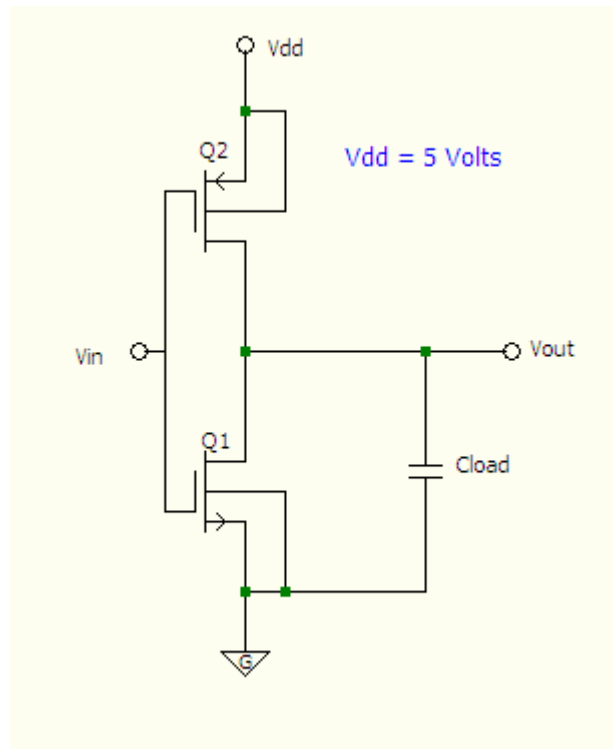
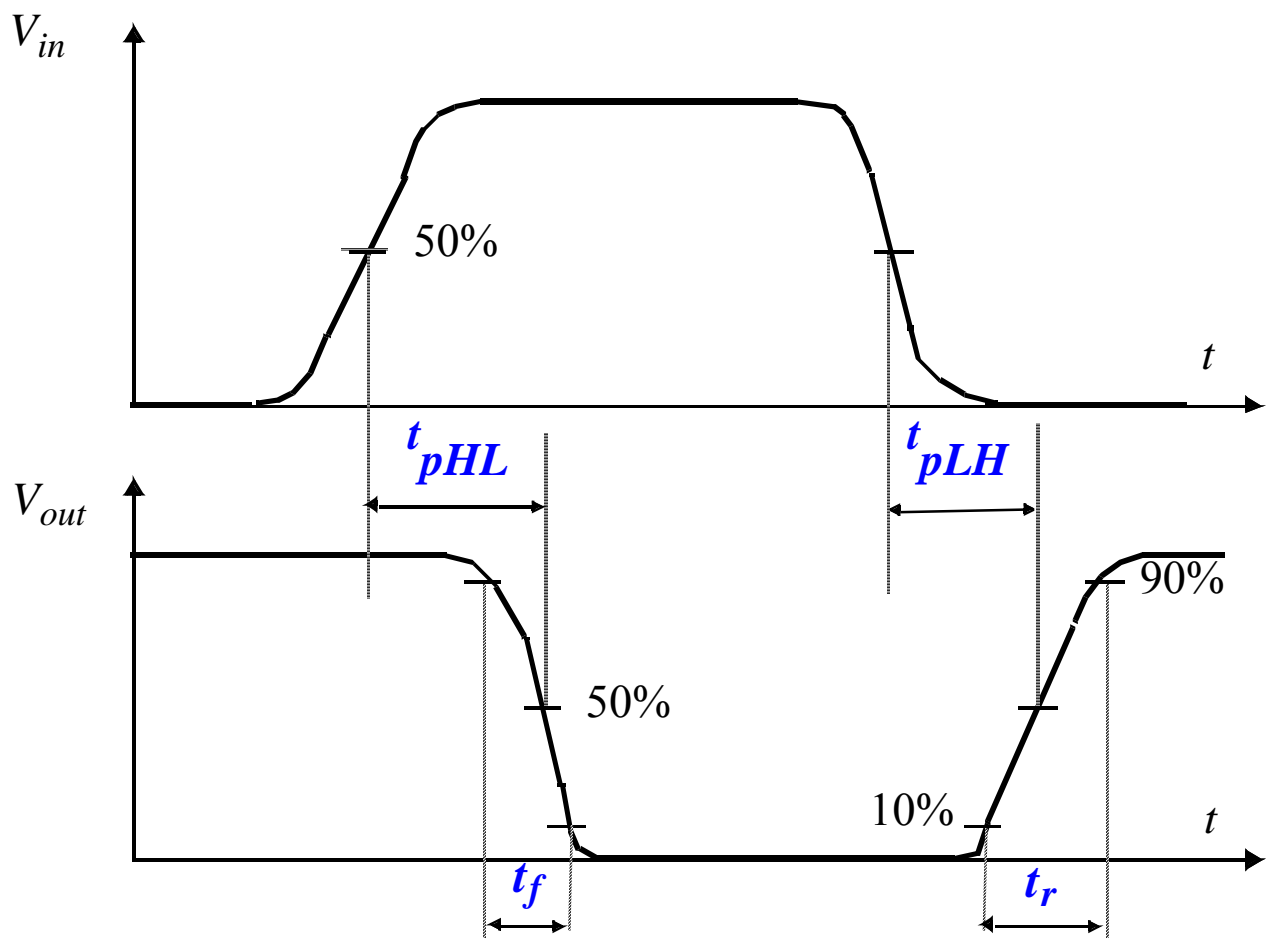

Figure 5 CMOS Inverter with loading capacitance
Figure 6 Transition Time Definitions
- 3) After having extracted all the parameters, use three different C_{load} values (560pF, 1.2nF, 10nF), measure the transition times for the inverter configuration in Figure 5. Definitions are given in Figure 6.